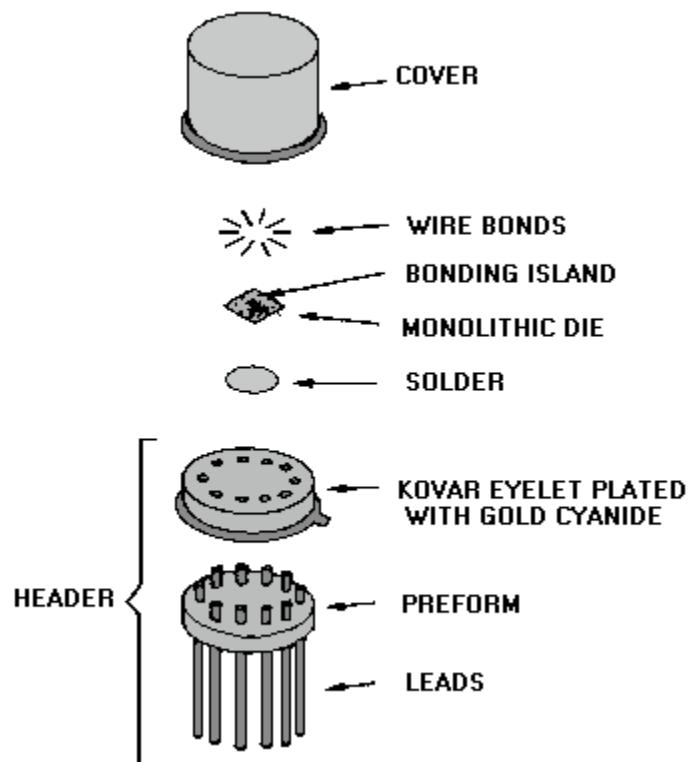

Figure 1-19.—Exploded TO-5.
Transistor-Outline Package. The transistor-outline (TO) package was developed from early experience with transistors. It was a reliable package that only required increasing the number of leads to make it useful for ICs. Leads normally number between 2 and 12, with 10 being the most common for IC applications. Figure 1-19 is an exploded view of a TO-5 package. Once the IC has been attached to the header, bonding wires are used to attach the IC to the leads. The cover provides the necessary protection for the device. Figure 1-20 is an enlarged photo of an actual TO-5 with the cover removed. You can easily see that the handling of an IC without packaging would be difficult for a technician.